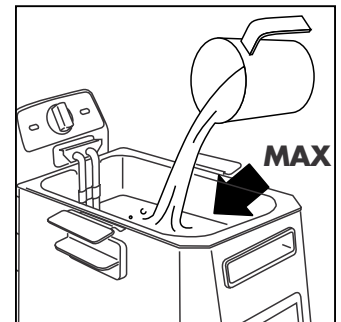

fig. 2
- If oil is used, pour it into the bowl until reaching the maximum level indicated (see Fig. 2). Never exceed this limit, as oil may overflow from the container. The level of oil must always be between the maximum and minimum limits. For best results, use a good quality frying oil such as corn oil or groundnut oil.